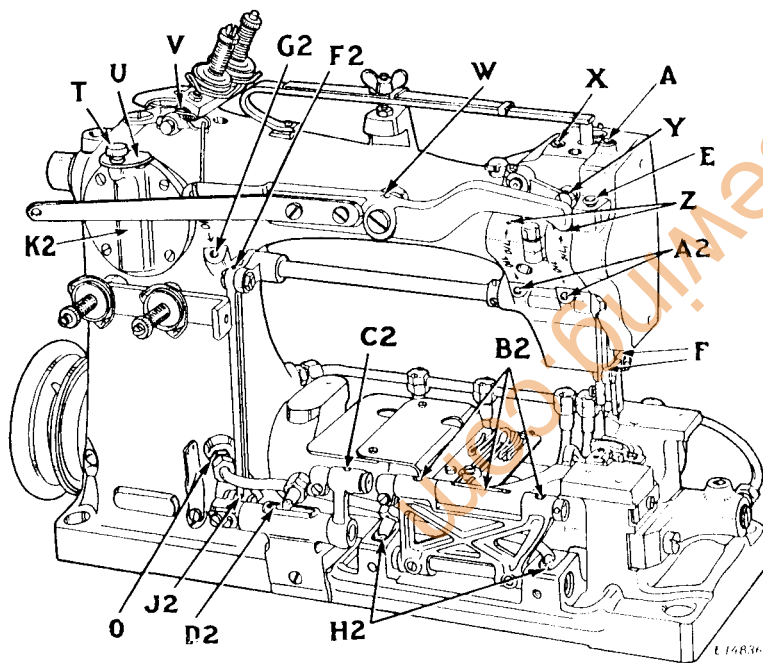
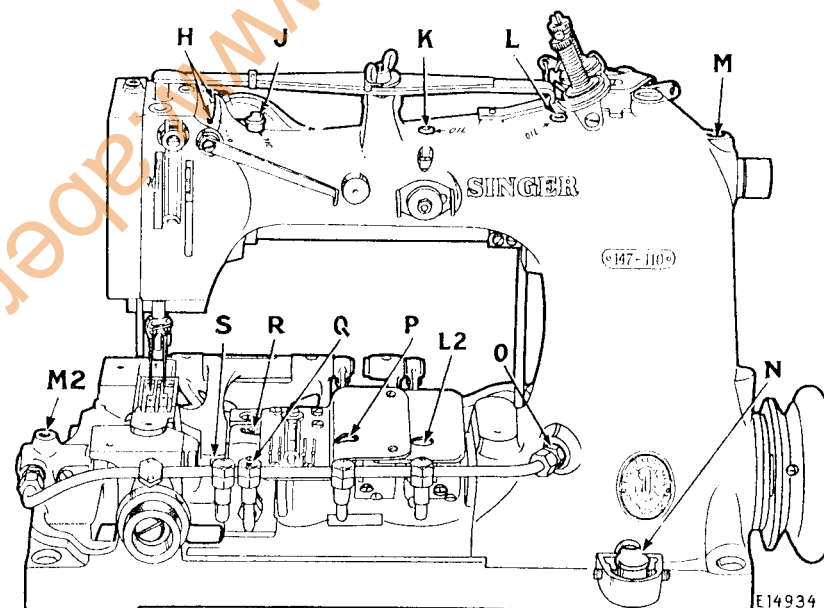

Fig. 2. Priming and Oiling Points at Rear Side of Machines
Fig. 3. Priming and Oiling Points at Front Side of Machine
The work plate and throat plate are removed in Figs. 2 and 3 only for the purpose of illustration.
1st. Loosen thumb screw (T, Fig. 2), turn aside cover (U, Fig. 2) and apply oil to the filler (K2, Fig. 2) until the oil stands about 1/16 inch from the top of the oil level cup (N, Fig. 3). THE OIL SUPPLY MUST BE MAINTAINED AT THIS LEVEL. Turn the cover (U) to closed position and tighten thumb screw (T).
2nd. Fill oil holes (X, A, E, B2 and C2, Fig. 2) and (M2, H, J, K, L and M, Fig. 3).
3rd. Fill the main oil pipe to OVERFLOWING, through oil hole (Q, Fig. 3). This is important as it primes the various oil wicks.
4th. Apply oil at oil holes (W, Y, Z, A2, F, F2 and G2, Fig. 2).
5th. Fill the troughs on connecting rods at (P and L2, Fig. 3).
6th. Fill the oil hole for the rotary shaft at (R, Fig. 3).
7th. Fill the trough on feed lifting eccentric at (S, Fig. 3).
8th. Fill the trough at (D2, Fig. 2).
9th. Apply oil at (H2, Fig. 2) for the under feed rocking frame hinge pin.
10th. Apply oil at (J2, Fig. 2) for the lower end of the upper feed vertical connecting rod.
11th. Apply an occasional drop of oil at (V, Fig. 2) for the tension releasing shaft.
1st. Apply oil to the oil filler (K2, Fig. 2) until the oil stands about 1/16 inch from the top of the oil level cup (N, Fig. 3) as instructed on page 7.
NEVER PERMIT THE LEVEL OF THE OIL TO BECOME LOWER THAN 1/4 INCH FROM THE TOP OF CUP (N, Fig. 3) WHEN THE MACHINE IS AT REST.
2nd. Fill oil cup (J, Fig. 3) LEVEL FULL twice daily or as required.
The letter "O", marked on each oil pipe coupling (O, Figs. 2 and 3) must always be at the top. This is to insure that the oil spoon, attached to the inner end of each coupling, is open side up.